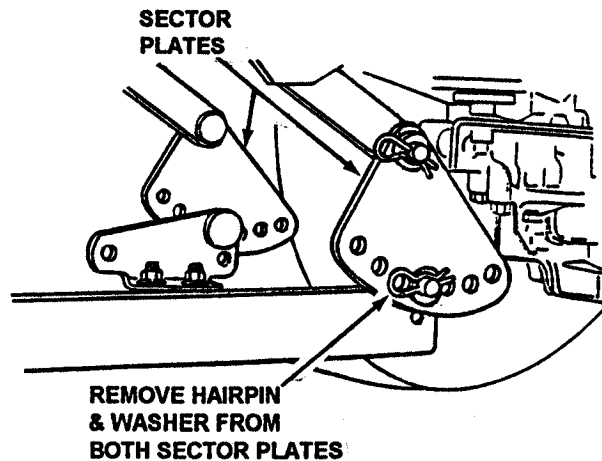

FIGURE 33
7. Make note of hole used in sector plates so same holes are used during re-assembly. See Figure 33. Remove hairpins and flat washers from rear deck hanger bracket on both sides of tractor.
8. Slide both sector plates off of rear deck hanger brackets. See Figure 33.